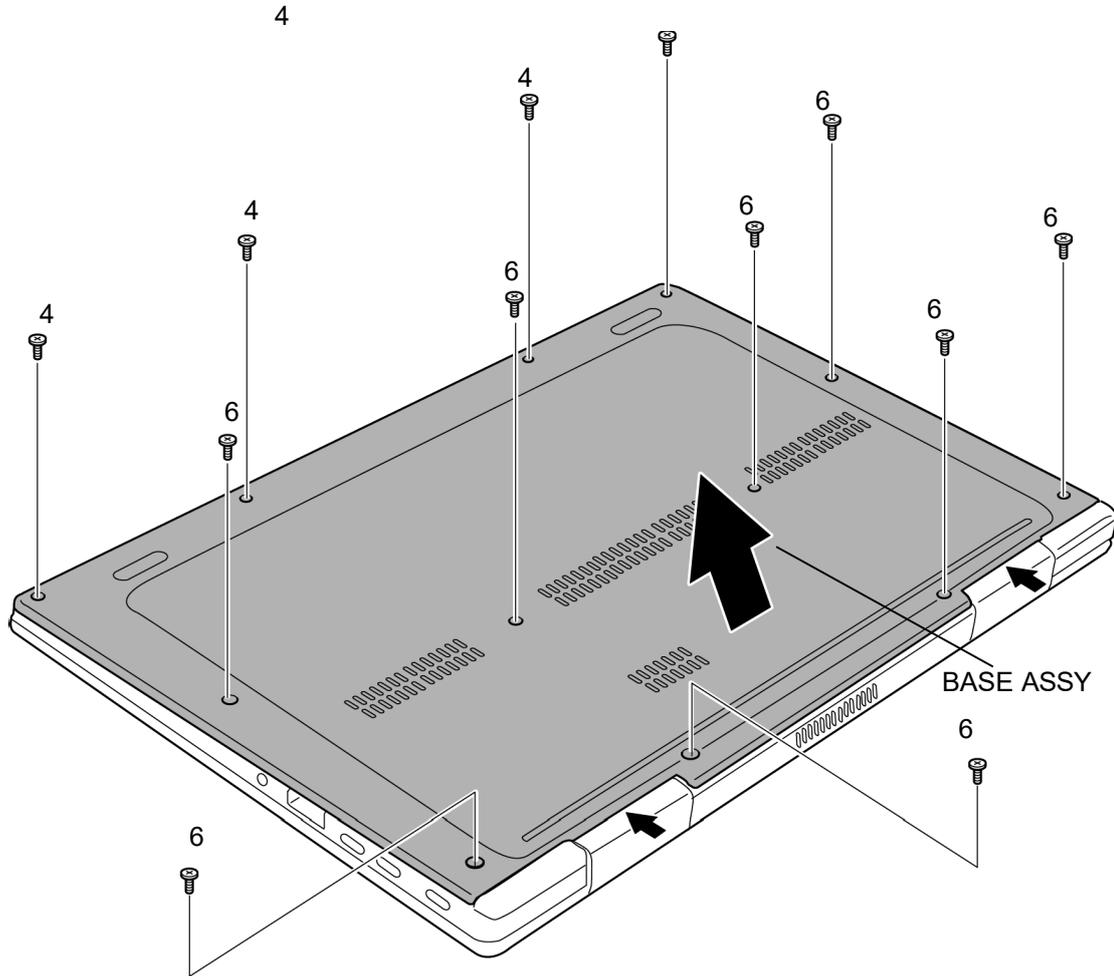

Figure 4-3 Removing the BASE ASSY (1)
- M2.5□6B FLAT HEAD screw □8 (Described as “6” in the Figure 4-3)
To install the BASE ASSY or BASE LTE ASSY, follow the steps below and refer to Figure 4-3 and 4-4.
- M2.5□4B FLAT HEAD screw □4 (Described as “4” in the Figure 4-3)